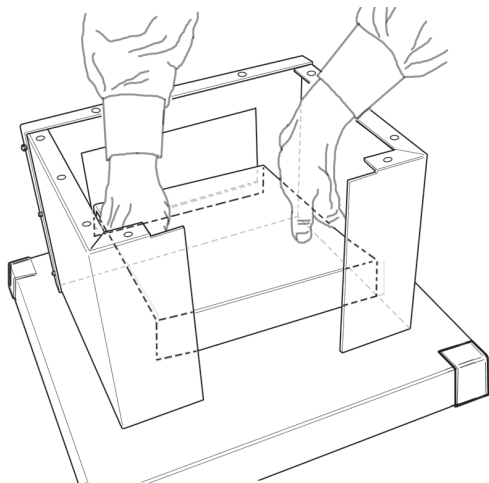

Figure 5 – Insert Ash Drawer Support.
4. Attach the pedestal front frame to the sides. The pedestal front should go over (not inside of) the side panels. Use three (3) machine screws, lock washers & hex nuts (provided in the hardware pack) on each side to attach both pedestal sides (#31) to the pedestal front (#32).
5. Position ash drawer support into assembled pedestal (Figure 5) and secure from rear with two (2) machine screws, lock washers and hex nuts. Tighten all pedestal hardware.